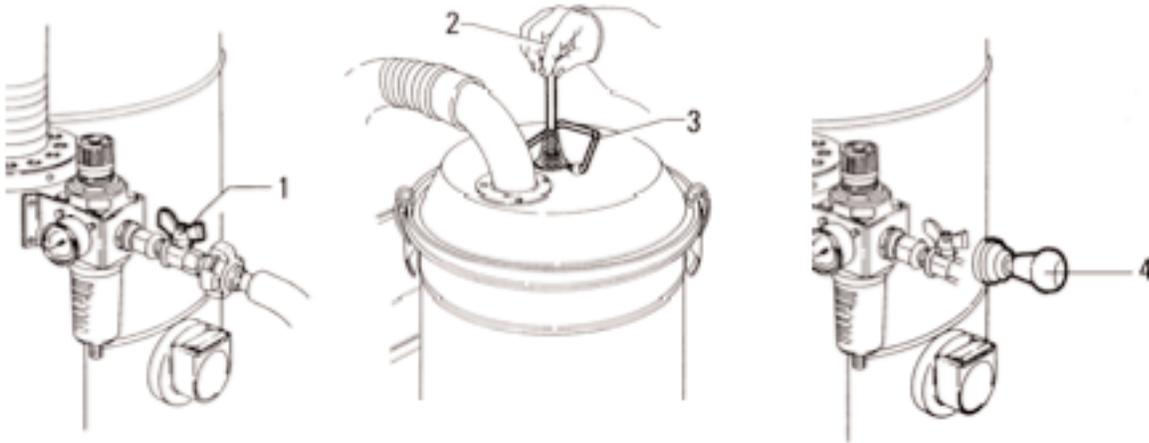

Fig. 6.5.1
6.5 Cleaning the primary filter (fig. 6.5.1)
- Vigorously lift and lower shaker knob "2" (fig. 6.5.1) several times in order to shake the dust from the filter.